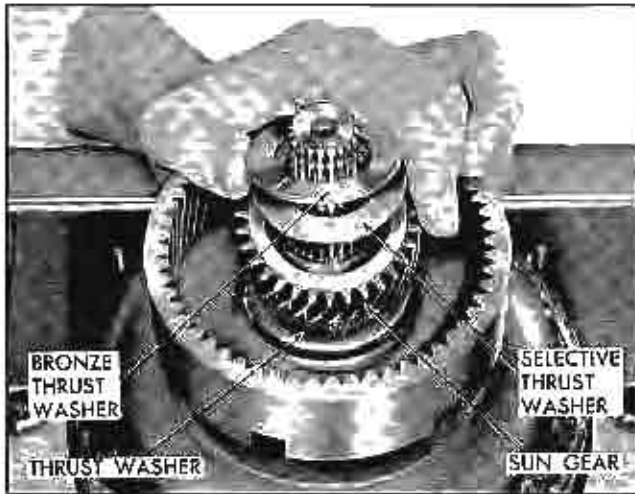

Fig. 167 Installing Sun Gear and Selective Washer for Front Unit End Clearance Check
5. Install front unit sun gear with recessed side over snap ring (Fig. 167).